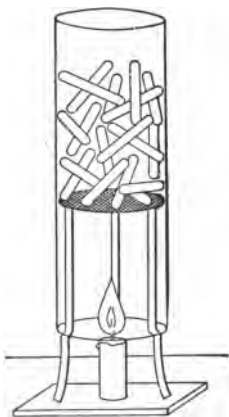

FIG. 15.
M. Not very. There is a substance called caustic soda which has the property of binding together every trace of water and carbonic acid gas with which it comes in contact. I put some loose pieces of it in the top part of a lamp-funnel, which I place over a burning candle (Fig. 15), and put the whole on the scale and balance it. We won't need to wait very long.